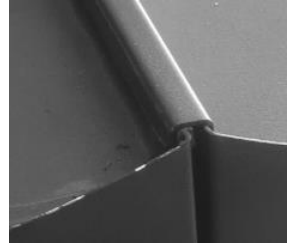

Fig. 4
4. With the help of an assistant, place the lip of the 14-1/2 in. 6-Drawer Side Tool Chest onto the corresponding edge of the 52 in. 6-Drawer Rolling Tool Cabinet, ensuring it is flush and secure (Fig. 4).